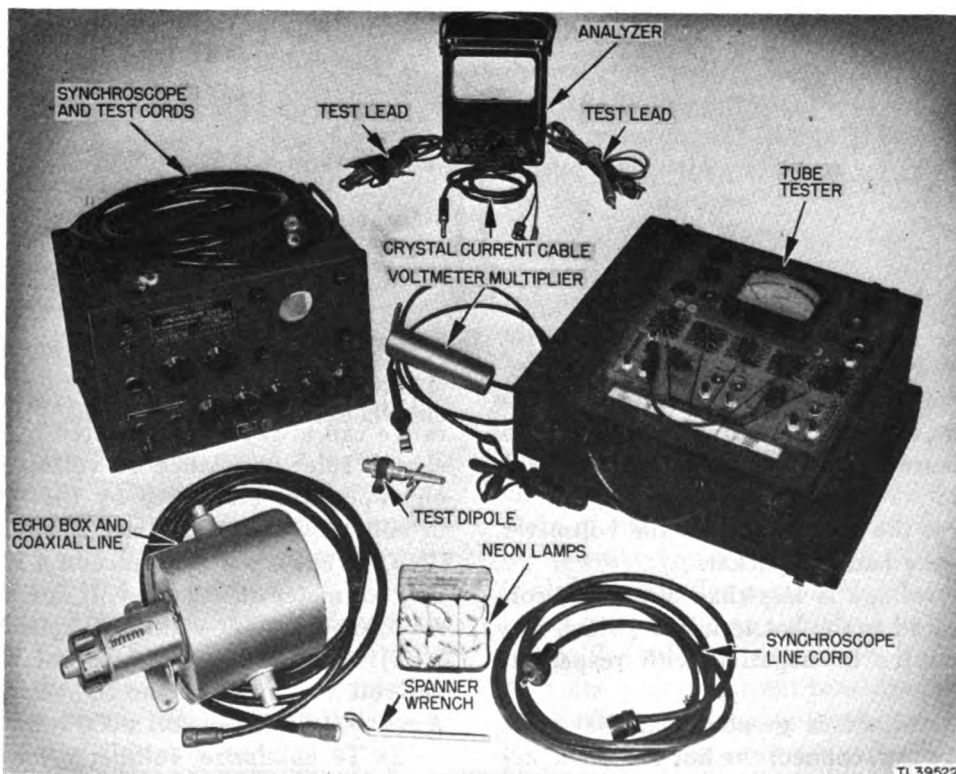

Figure 148. Test equipment.
*f. TEST EQUIPMENT AVAILABLE FOR TROUBLE SHOOTING.* The following test equipment is provided with radio Set SCR-682-A for use in maintenance and trouble shooting. Figures 148 and 149 show pictures of the test equipment.
- (1) Synchroscope I-212.
- (2) Echo box.
- (3) Analyzer, Simpson, model No. 260.
- (4) Tube tester, Hickok, model No. 530.
- (5) Emergency receiver tuner.
- (6) Voltmeter multiplier.
- (7) Crystal current cable and plug.
- (8) Meter shunt.
- (9) Coaxial tee connector set.
- (10) Ten neon lamps, type T-2.
(3) When a voltmeter is loading a circuit, the effect can always be noted by comparing the voltage reading on two successive ranges. If the voltage readings on the two ranges do not agree, voltmeter loading is excessive. The reading (not the deflection) on the higher range is greater than on the lower range. If the voltmeter is loading the circuit heavily, the deflection of the pointer will remain nearly the same when the voltmeter is shifted from one range to another.
(4) The voltage and resistance drawings used in this manual are based on readings taken with the Simpson analyzer (fig. 148). The trouble shooter should use a meter having the same ohms-per-volt sensitivity. Because the meter used in testing for the voltage produces the same amount of loading as the meter used in measuring the voltage, it is unnecessary to consider the effect of loading.